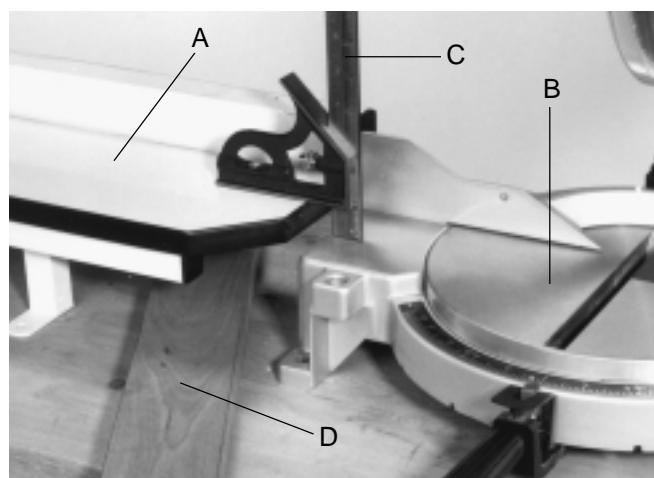

Fig. 2
1. Place the saw tables, one of which is shown at (A) Fig. 2, on a workbench or other suitable flat surface.
2. Position the miter saw (B) Fig. 2, next to the miter table as shown, and using a combination square (C), measure the distance the saw table is below the surface of the miter table. **NOTE:** If the saw table is higher than the surface of the miter table, the miter tables will have to be raised to the same level as the saw table in the same manner.
3. Plane a piece or pieces of hardwood stock (D) Fig. 2, to the same thickness that the saw is below the miter table surface. This is the distance which was determined in **STEP 2**.